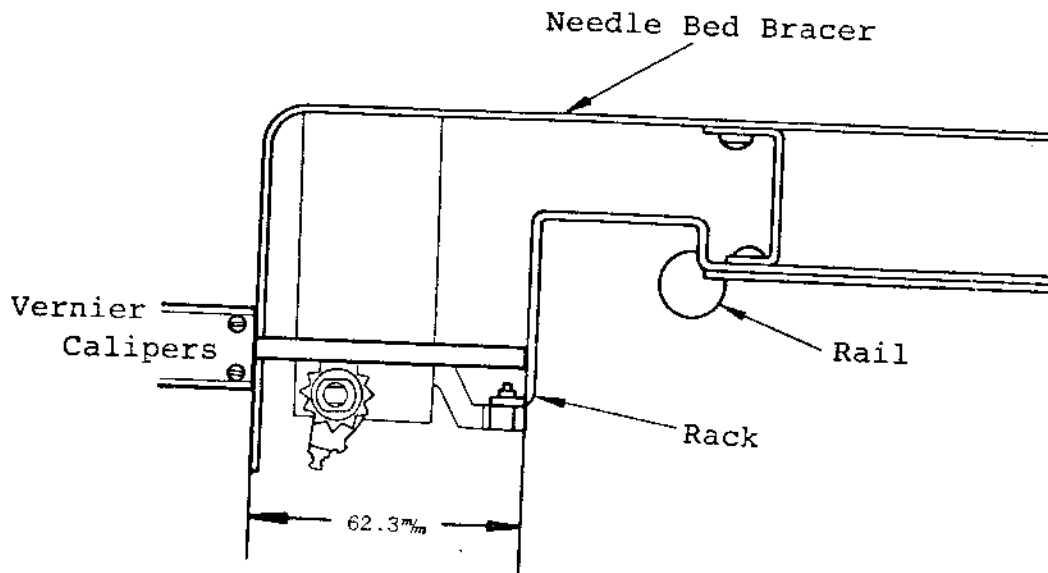

Fig. 70
1. Assemble the Needle Bed Bracer A to the needle bed so that the distance between the Rack and the Bracer A is kept even at 62.3 m/m (see Fig. 70).